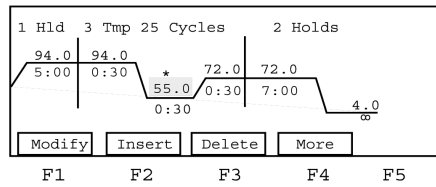

Figure 4-6. The Modify screen
2. Press **F4-More**. This displays the Modify screen (Figure 4-6).